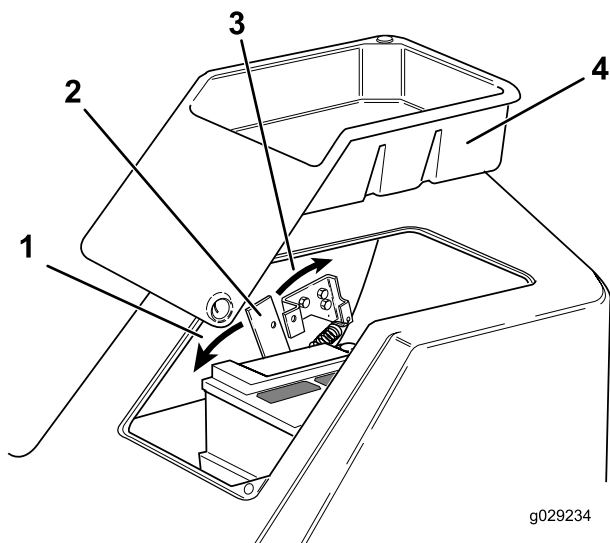

Figure 23
2. Release and remove the tool tray from the left side of the platform (Figure 23).
4. Move the locking latch handle toward the front of the machine until the latch hooks clear the locking bar and raise the platform (Figure 23).
2. Move the locking latch handle toward the front of the machine as the platform nears the fully lowered position (Figure 23).
3. Fully lower the platform and move the locking latch handle toward the rear of the machine until the latch hooks fully engage the locking bar (Figure 23).